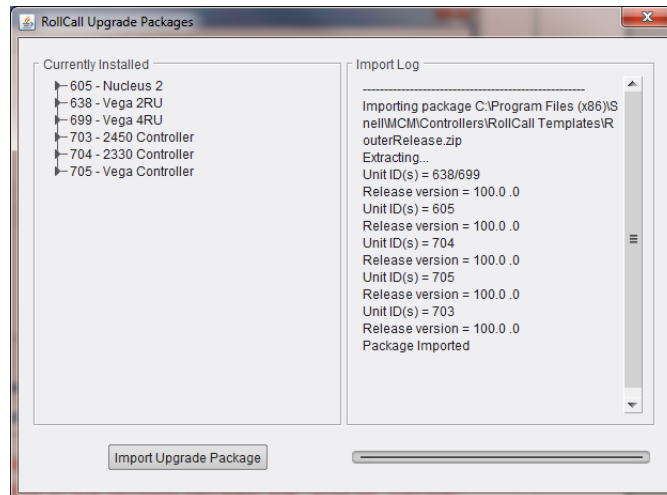

Figure 75 Software Version Numbers
12. Make a note of the software Version number being imported. The Software version number is shown in the right side of the window beneath the “Unit ID” number (see Figure 75):